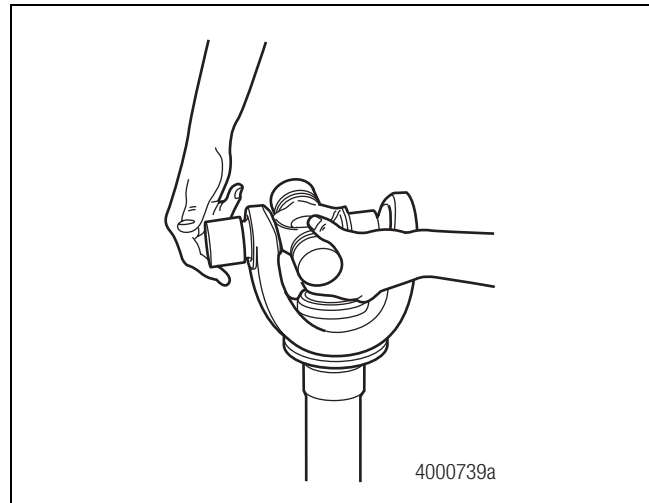

Figure 4.16
6. Remove the round bushing. Figure 4.16.